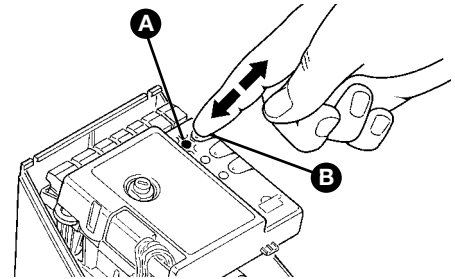

Figure 60
- 1 Press the P1 button [B] (figure 60) on the control unit and hold it down